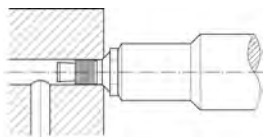

Fig. 2
- › After inserting the plug into the hole (making sure the tool is flush to the work surface) activate the tool to expand the plug. The mandrel will break apart when the proper tension has been reached (Fig. 2 and 3).